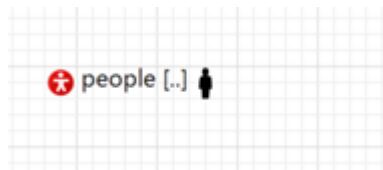

Figure 12. Population of Agents
Step 2. Begin Building Agent-Based Model: In the *Palette* Tab, select *Agent* from the list of options by hovering your mouse on the left-most ribbon. Drag and drop an *Agent* into the *Main* graphical area. Select “Population of Agents”, then name your agent “Person” (Note: *Agent population* automatically provides “people” as the plural version). Leave the radial option as “Create the agent type from scratch” and click *Next*. Choose “2D” and “Person”, followed by *Next*. Skip the parameters for now and click *Next*. Enter “2000” as the *population of Agents* (Warning: anything above this may or may not work in the student free edition and you will receive a “*Java.nullPointerException*” error for trying which can be difficult to troubleshoot). Finally, click finish. See Figure 12 for reference of the *Main* view so far.